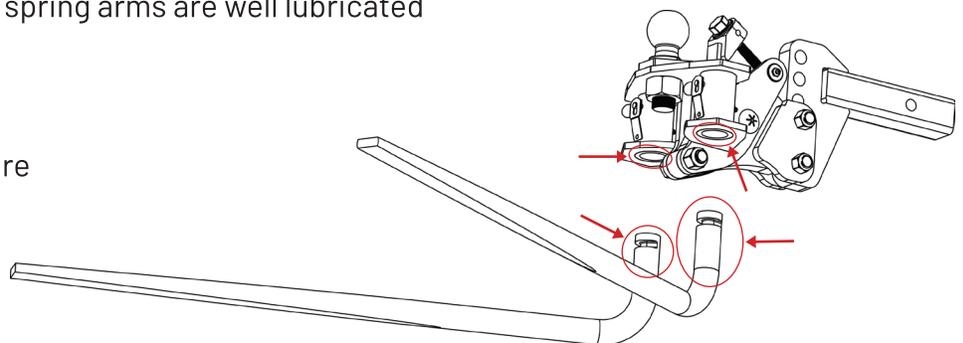

Figure 19
B) Spring Arm Ports (2) – Lubricate the contact surfaces between the spring arms and the spring arm sockets. Grease may also be applied directly to the spring arm ends instead of using the ports (See Figure 19). For safe operation, ensure spring arms are well lubricated before each tow.